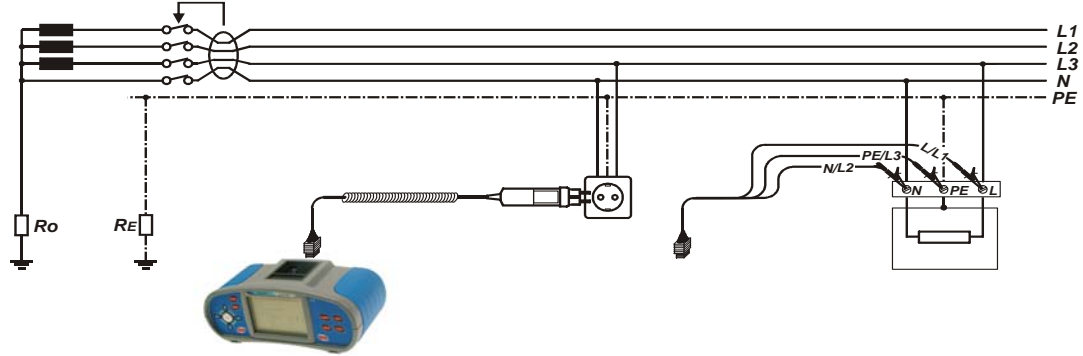

Figure 5.13: Connecting the plug commander and the universal test cable
- Connect** test leads to the tested object (see figure 5.13).
- ❑ **Connect** test leads to the tested object (see figure 5.13).
- **Connect** test leads to the tested object (see figure 5.13).
<ul style="list-style-type: none"> ❑ Select the RCD function. ❑ Set sub-function AUTO. ❑ Set test parameters (if necessary). ❑ Connect test cable to the instrument. ❑ Connect test leads to the tested object (see figure 5.13). ❑ Press the TEST key. 	Start of test